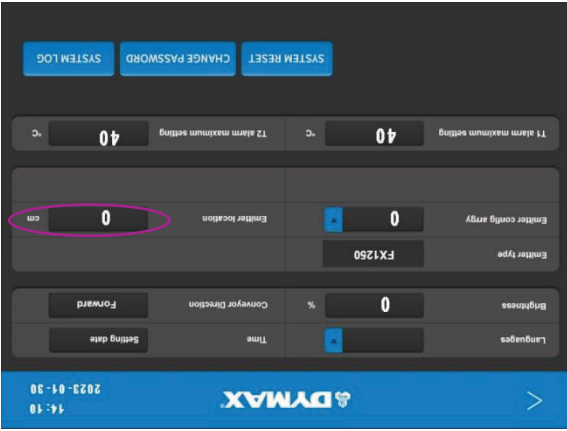

Figure 40. Emitter Location
- 2) On the system setting window, press the bar beside the emitter location to input a value in centimeters (Figure 40).